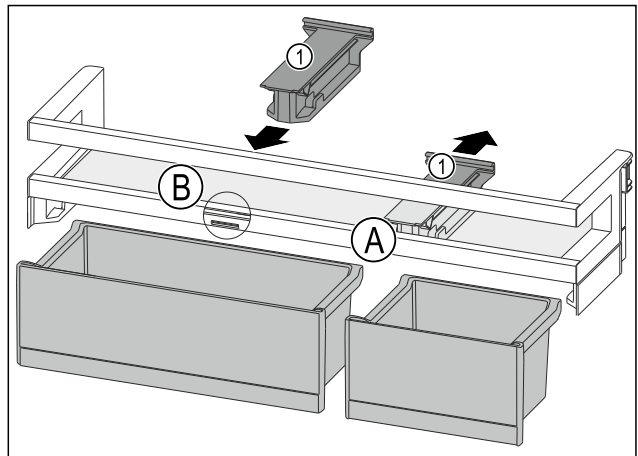

Fig. 126
- ▶ Take off the holding part Fig. 126 (1) in position Fig. 126 (A) backwards.
- ▶ Insert the holding part Fig. 126 (1) in position Fig. 126 (B).